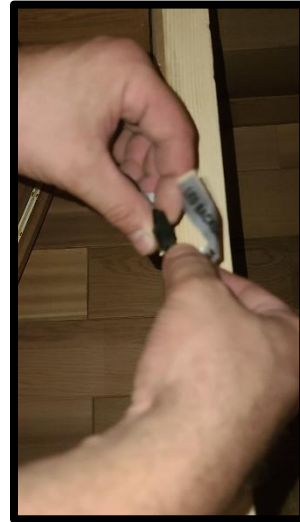

Figure 10
3. Third, you will need to locate the two BENCHES for the first and second level on GDI-8226-01 and the single BENCH on GDI-8222-01 and GDI-8223-01. Once located, proceed to slide the BENCHE(S) horizontally over the BENCH SUPPORTS. Be sure to connect harness for the LED lights on the BENCHES. Use the provided 5x50mm wood screws to secure the BENCHES in place. (see Figure 10)